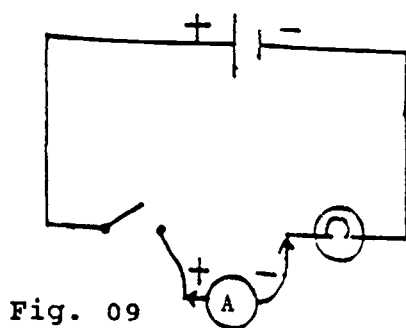

Fig. 09
3. Connect the ammeter between the lamp and the wire as shown in fig. 09. Make sure that the ammeter is connected to the positive side of the opening in the circuit.